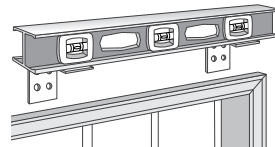

figure 9
4. Working from one side of the window to the other, install remaining brackets following step 3. Use a level to ensure that each bracket is aligned with the first bracket installed (figure 9).